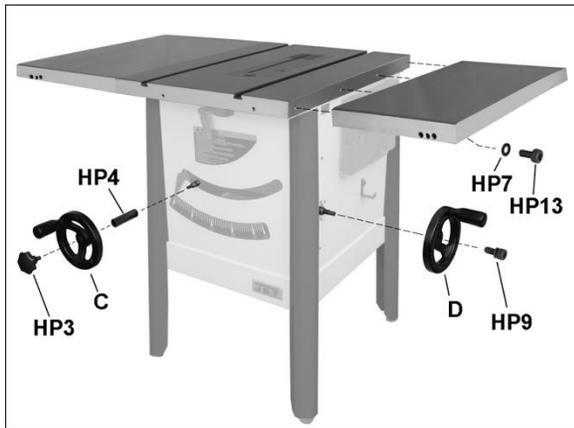

Figure 5-4
See Figure 5-4.
1. On front of table saw, slide spacer (HP4, Figure 5-4) onto shaft followed by handwheel with large mounting hole (C). The flat side of handwheel hole aligns with flat side on shaft.
3. Slide handwheel with small mounting hole (D) onto shaft on right side of table saw, aligning flat side of hole with flat side on shaft.